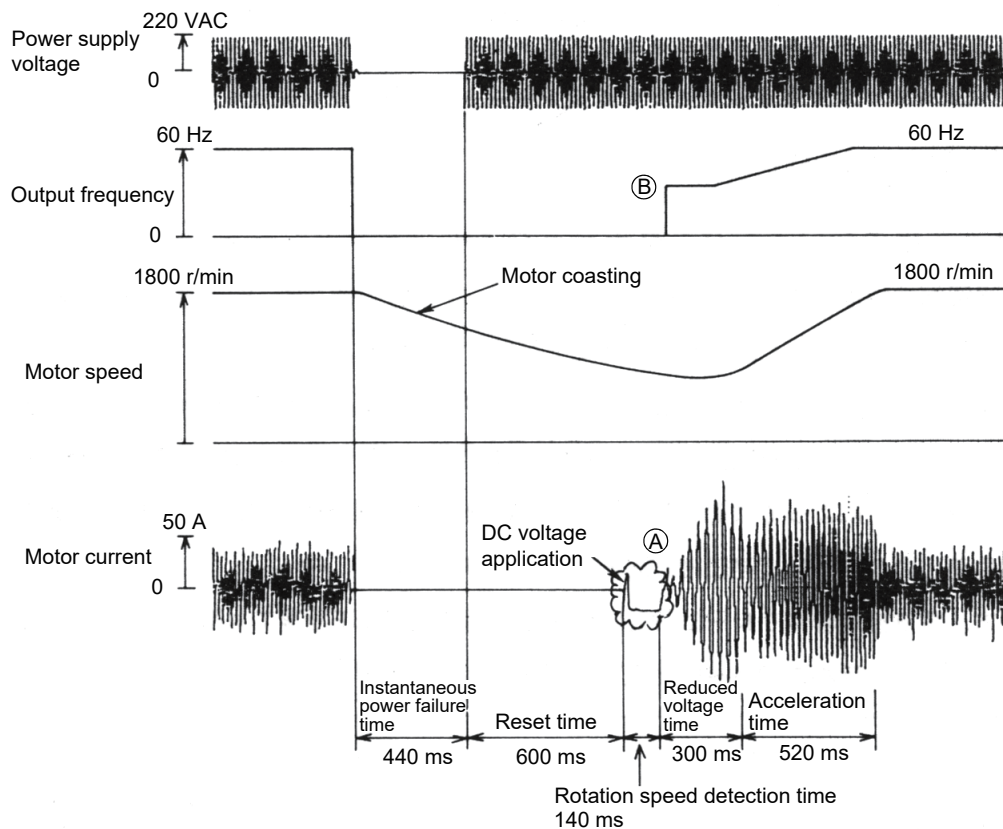

Fig. App 1.9 Example of automatic restart after instantaneous power failure operation
- 2) After a power restoration, applying the DC voltage from the inverter to the coasting motor carries the DC to the motor. (Refer to Fig. App 1.9 ①.)
- 4) The inverter outputs with the frequency according to the motor speed. (Refer to Fig. App 1.9 ②.) After that, restart the inverter operation while increasing the output voltage gradually to reduce the starting current of the motor.